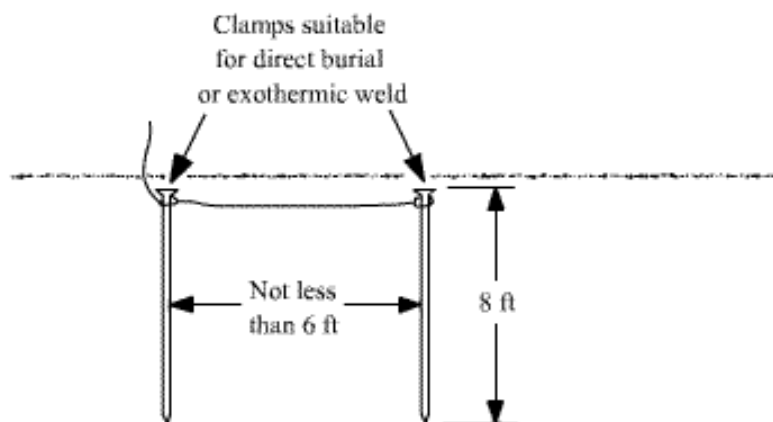

Figure 5.4. Rod electrodes installation.
- Rod electrodes of iron or steel at least 5/8" in diameter, buried to a depth of not less than 8 ft under the grade level and not less than 6 ft apart from each other, as shown in Figure 5.4.